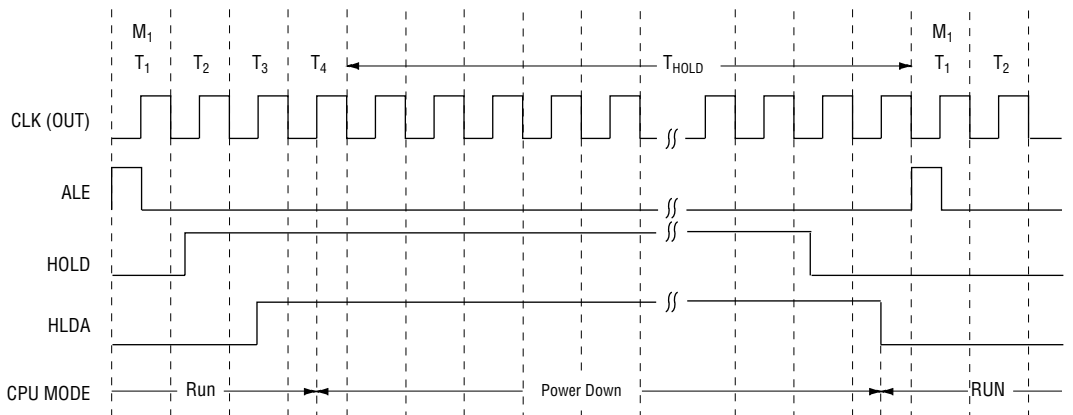

Figure 8 Started and Released by HOLD
**(2) Start by means of HOLD pin (See Figure 8.)**